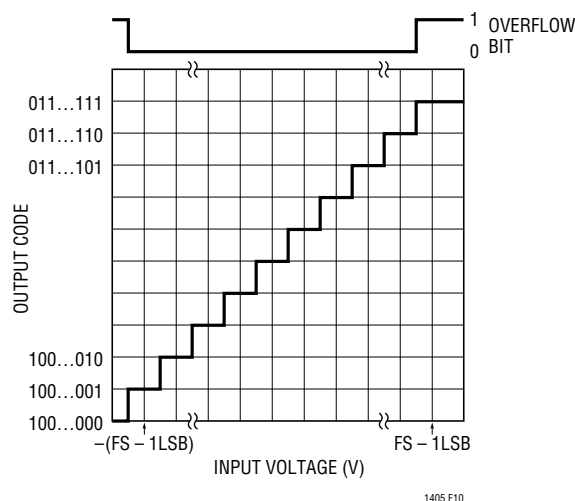

Figure 10. LTC1405 Transfer Characteristics
Figure 10 shows the ideal input/output characteristics for the LTC1405. The output data is two's complement binary for all input ranges and for both single and dual supply operation. One LSB =  $V_{REF}/4.096$ . To create a straight binary output, invert the MSB (D11). The overflow bit (OF) indicates when the analog input is outside the input range of the converter. OF is high when the output code is 1000 0000 0000 or 0111 1111 1111.